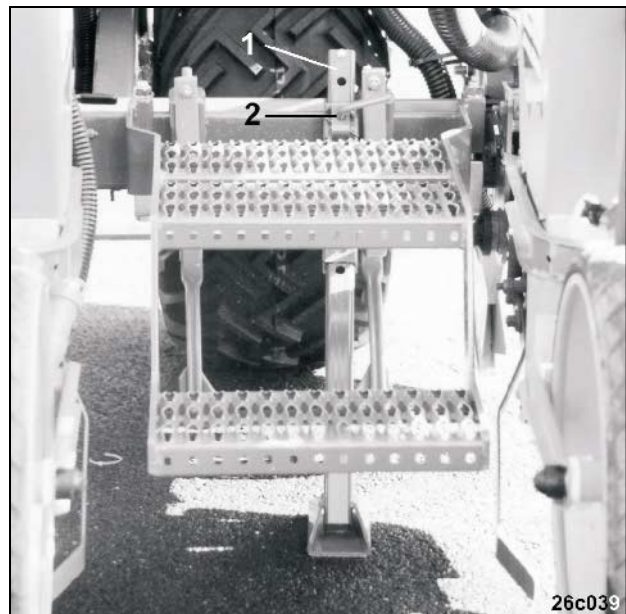

Fig. 58
**Before coupling the implement pull out the support stands (Fig. 58/1) and secure with a spring loaded pin (Fig. 58/2)**